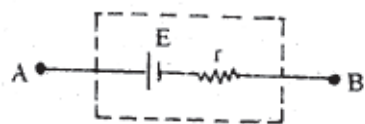

Fig. 23.1
- (ii) Schematically, internal resistance r of a cell is shown as part of a cell of *emf* \mathcal{E} whose terminals A and B only are available to us for making connections (Fig 23.1)